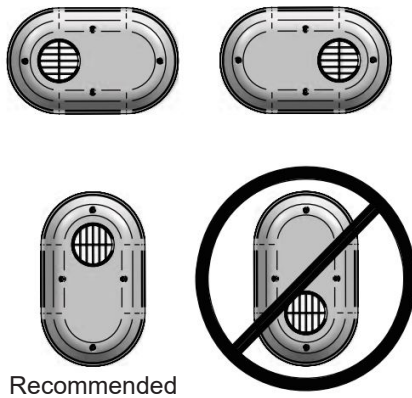

Figure 12. Low Profile Termination Orientations
1. Low profile terminations must be installed in the proper orientation. See Figure 12 for possible mounting orientations.